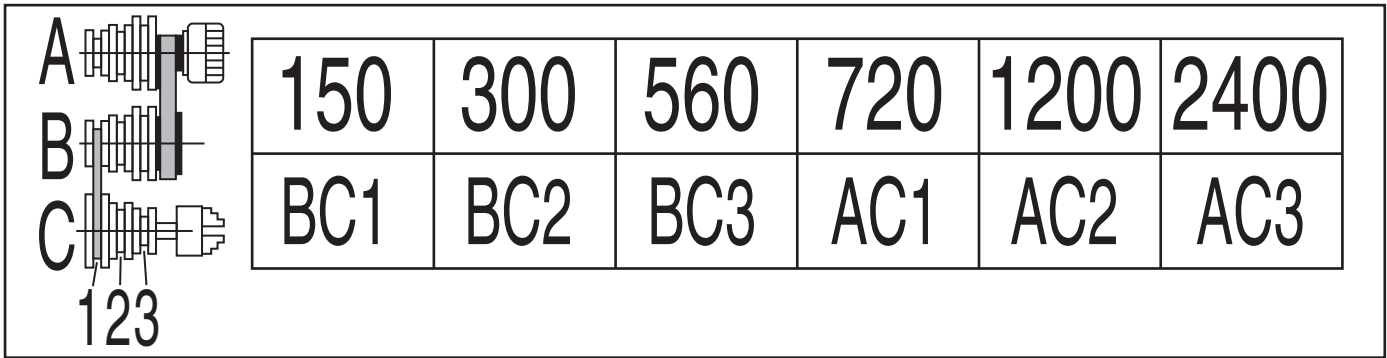

Figure 48. Model G9772Z spindle speed V-belt configuration chart.
- Refer to the chart in **Figure 48** above and find the spindle speed on the top row that is closest to your calculated spindle speed.
4. Configure the V-belt on the pulleys according to the letter and number combination under the selected spindle speed from the chart in **Figure 48**.